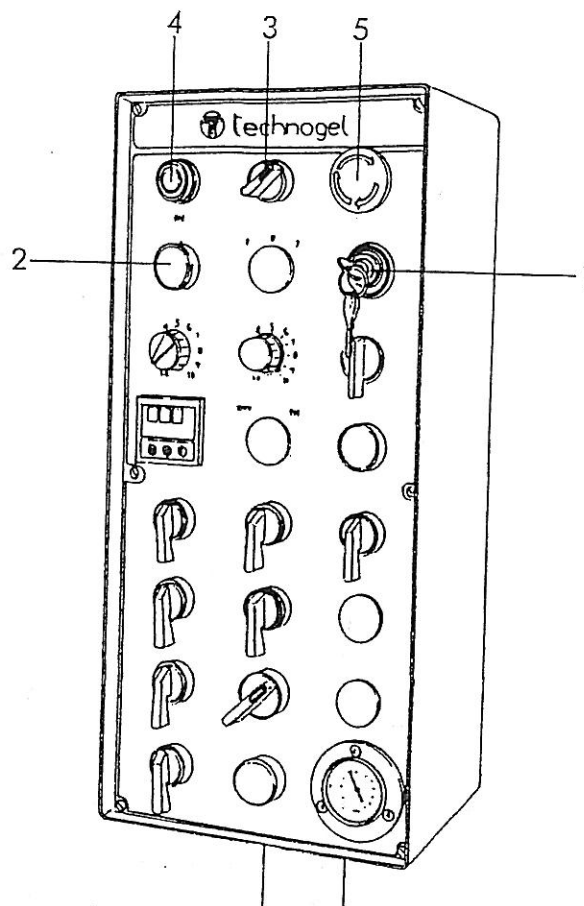

Fig.12.1
- Switch on the mains switch 1 fig. 12.1 so that light 2 fig. 12.1 comes on;
- Position selector 3 fig. 12.1 on phase/phase mode;
- Press pushbutton 4 fig. 12.1. The machine will advance as long as the pushbutton is held down and will stop when released.;
Before carrying out any further regulation on the stations, turn off the machine by turning selector 1 fig. 12.1.